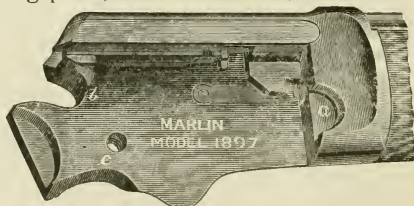

FIGURE 4.
*tool steel carefully hardened*, which insures freedom from wear and in consequence a permanent adjustment. Figure 4, shows the left hand side of receiver with breech bolt, barrel and magazine attached. It will be observed that the breech bolt is secure, so there is no danger of its dropping out and being lost, as there is a groove on the under side of the breech bolt in which a projecting lip on the support at the rear end of the receiver fits. Consequently, to remove the bolt it must be pushed back to the limit of its path, when it is free. Except in this position the bolt cannot be removed. All
Cock the hammer; then place the right side of the receiver on the left side so that the lip *A* fits in *a*, a recess provided to receive it. Then as the right side of the receiver is pressed on the left side, the beveled shoulders *B* and *C* fit in the corresponding curves *b* and *c*, figure 4: screw in the thumb screw.